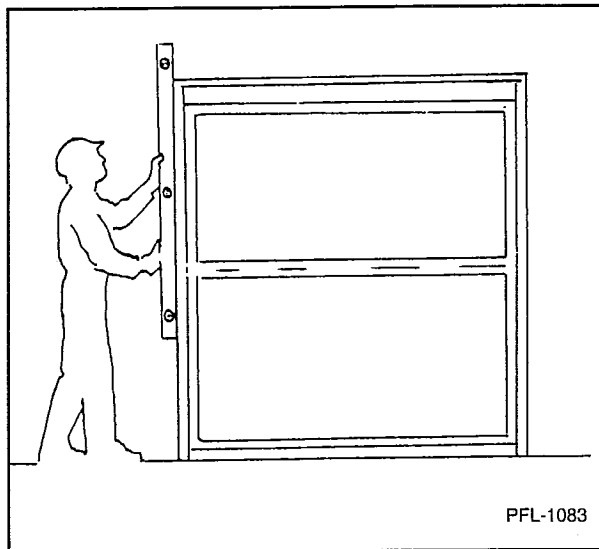

Figure 7
9. Plumb the gate using a plumb bob or a four foot or longer level. See Figure 7.